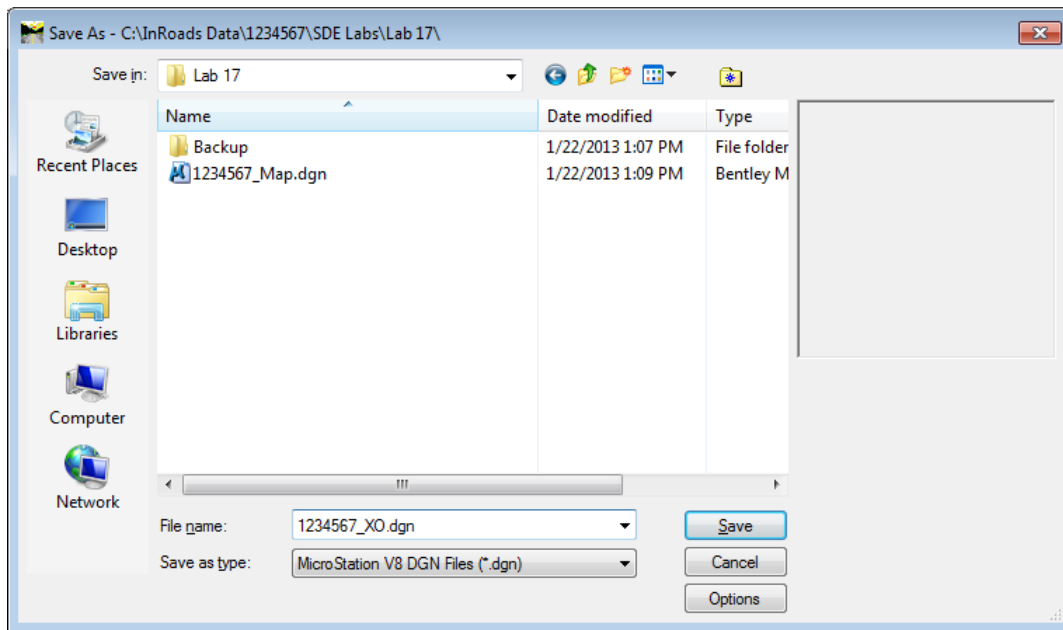

Figure L17-13 Save As Dialog
- Verify your entries match those shown in *Figure L17-13*.